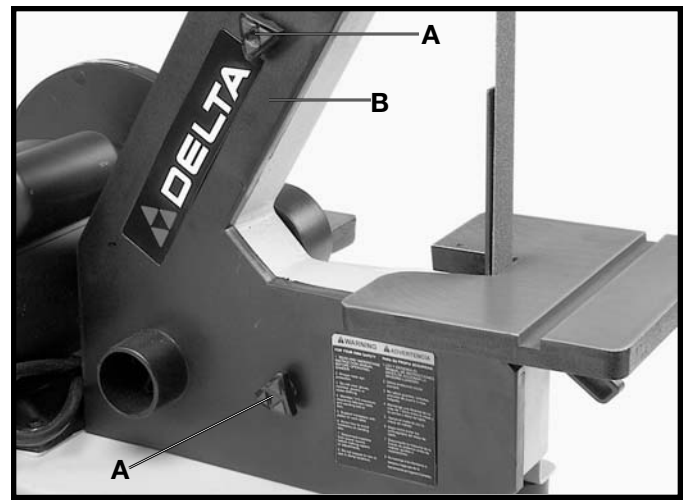

Fig. 31
2. Unscrew and remove the two knobs (A) Fig. 31, and remove the side cover (B) from the belt unit.